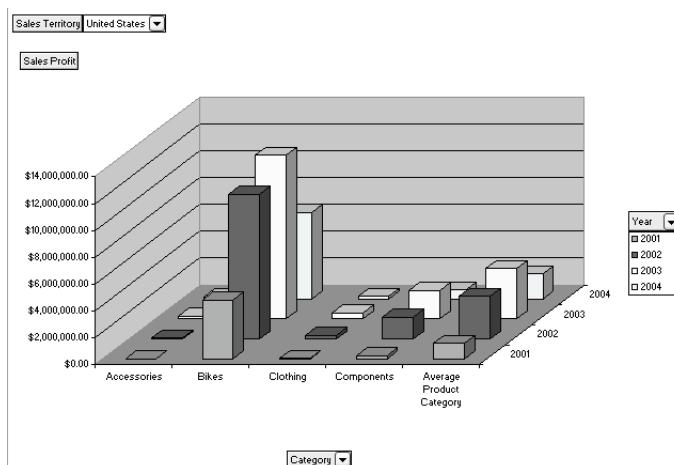

Figure 19.10 A PivotChart report is always synchronized with the PivotTable source report.
- In the Chart toolbar, expand the Chart Type dropdown and select the 3-D surface chart button (Figure 19.10).